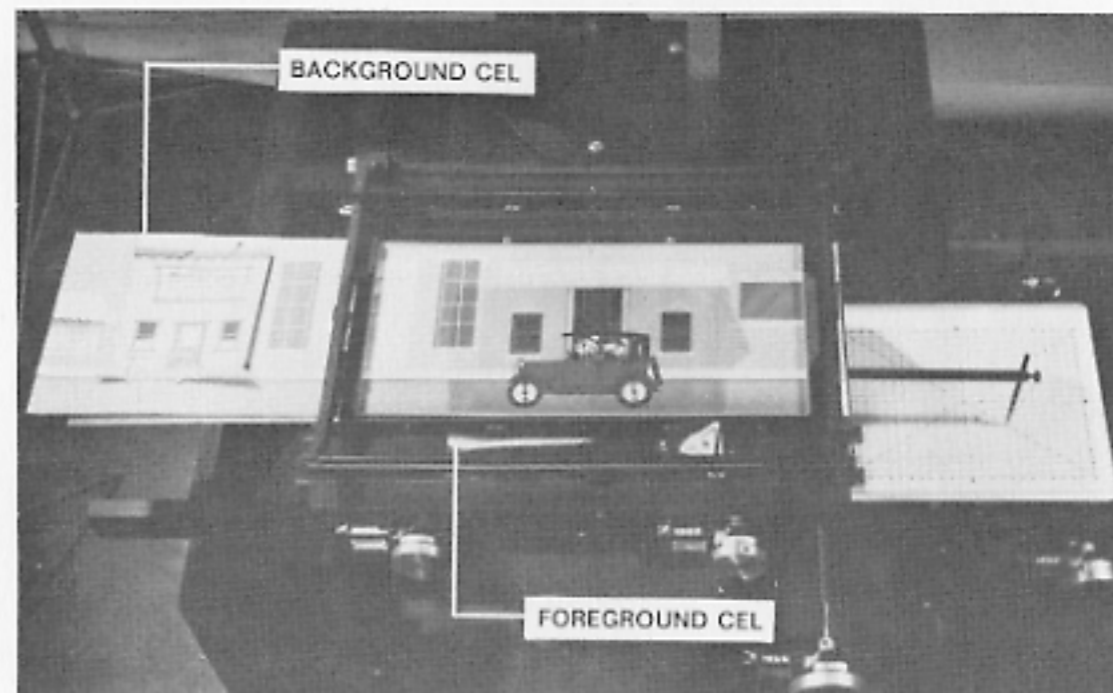

figure 9. Cels ready for photography
- Fig. 9 Art Work Positioned for Photography
2.1.3 Each peg track is capable of being moved horizontally independently of the other peg tracks or the compound, i.e., this allows the background cel to be moved while the foreground cel remains in its same position relative to the lens. The two inner 12 field peg tracks are controlled by the handwheels in front of the table top. The right handwheel controls the track above the insert (top 12 field track), and the left handwheel controls the track below the insert (bottom 12 field track). A counter is located adjacent to the handwheel and each digital change of this counter represents one hundredth of a field of the peg tracks. The other two peg tracks (located top and bottom 18 field) are positioned by sliding or pushing them the necessary amount. Locks are provided on all peg tracks for maintaining cel position during photography and when replacing cels. The pegs may be removed by merely unscrewing them when it is necessary to photograph large art work. (See Fig. 9)
2.1.8 A pantograph is located adjacent to the compound. By placing below the needle the path to be followed on the art work, the exact position of the compound relative to lens on that path will always be known (See Fig. 9).